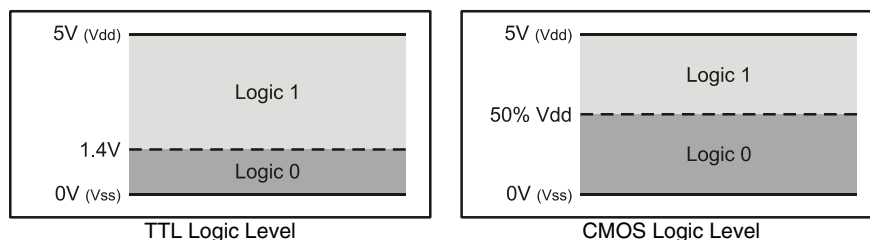

Figure 5.2: TTL and CMOS Logic Level Threshold Voltages
An input pin's logic threshold determines the voltage levels that are interpreted as logic high (1) and logic low (0). Most microcontrollers, and other integrated circuits use one of two types of logic threshold: TTL Level or CMOS Level. The BASIC Stamp I/O pins are, by default, configured for TTL level logic thresholds. Figure 5.2 is an illustration of the difference between TTL and CMOS logic levels.